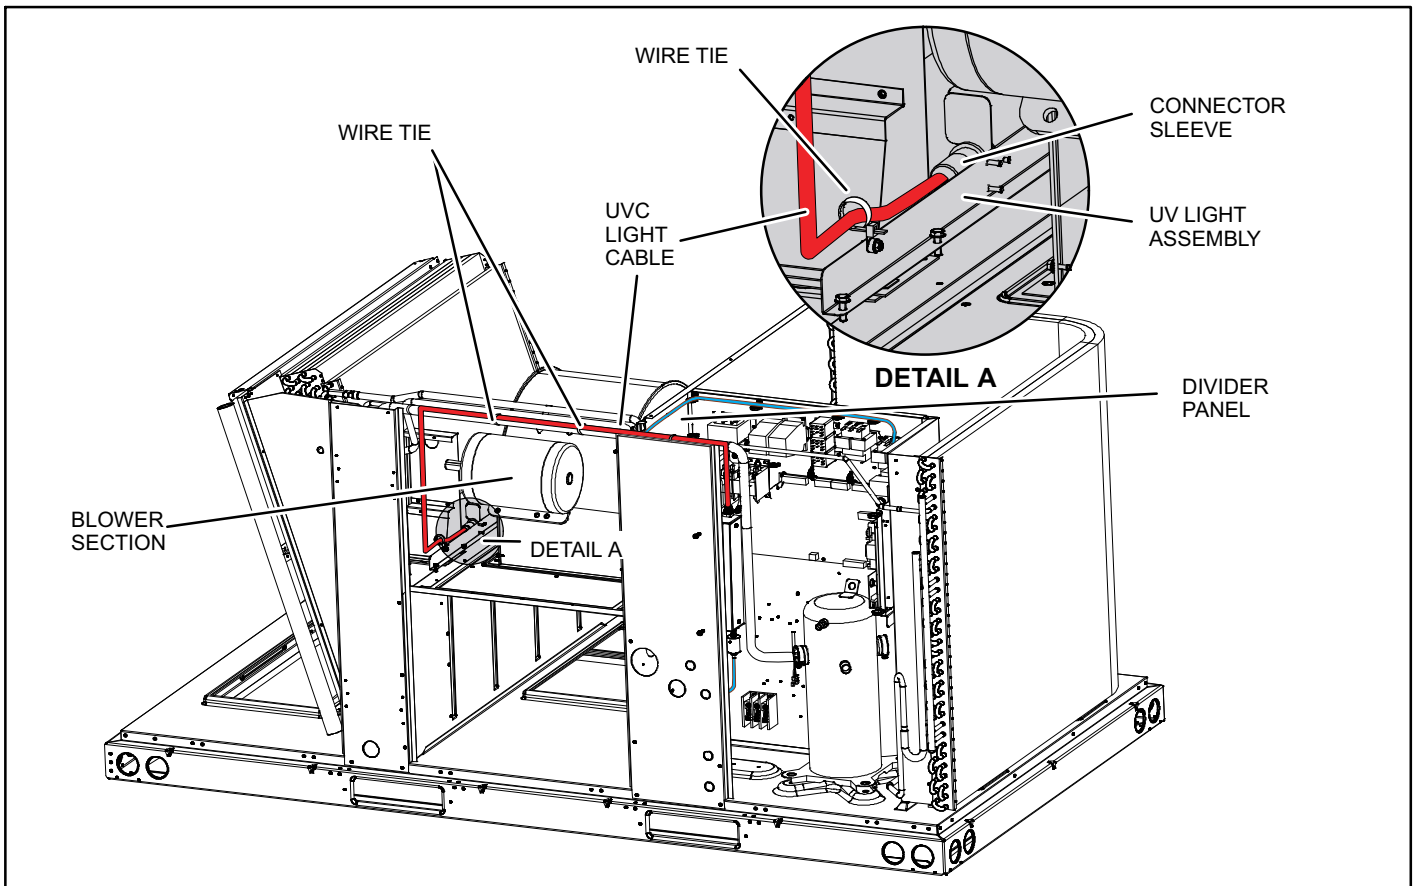

Figure 4. Routing and wire-tying the cables
3. Route the ballast cable with the 4-pin connector through the divider panel (see figure 4) into the blower section. Wire tie the cable at multiple locations along the refrigerant line.